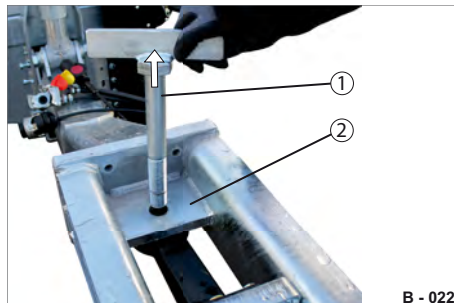

Fig. 19 Removing fastening bolt
- Pull out the fastening bolt (Fig. 19/1).